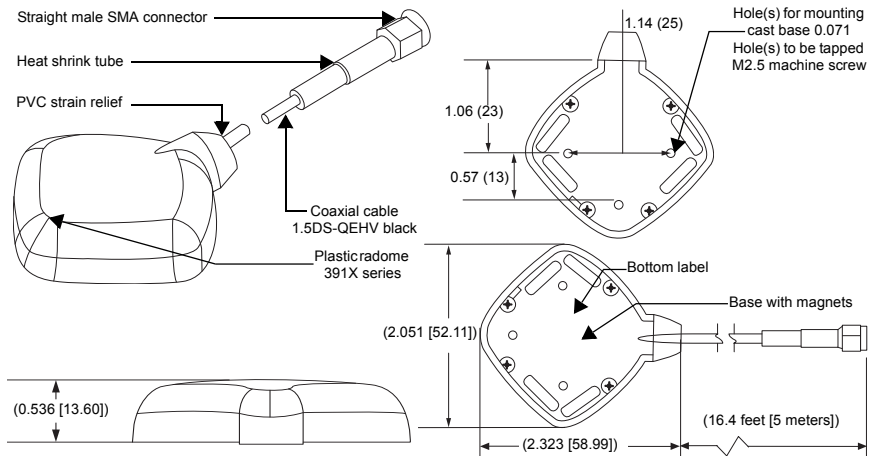

Figure 1
3. To secure the antenna more firmly on the vehicle's surface, drill holes using the pattern shown in Figure 1. To ensure a long term, water-tight seal, it is recommended that a bead of silicone sealant be applied around all the holes.